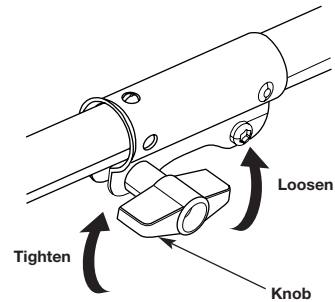

Fig. 3
3. Turn the knob counterclockwise to loosen the coupler (Fig. 3).
2. Turn the knob counterclockwise to loosen the coupler (Fig. 3).